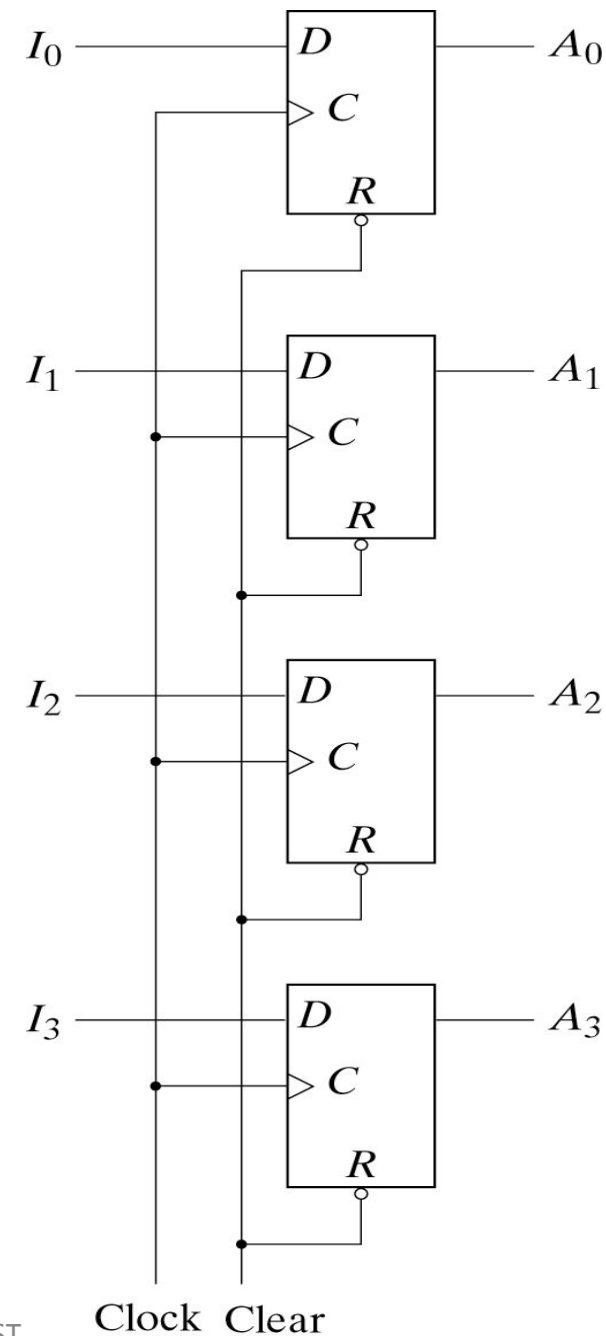

Fig. 6-1 4-Bit Register
- Fig 6-1 shows a register constructed with four D-type flipflops.
- A clock edge applied to the C inputs of the register of Fig. 6-1 will load all four inputs in parallel.